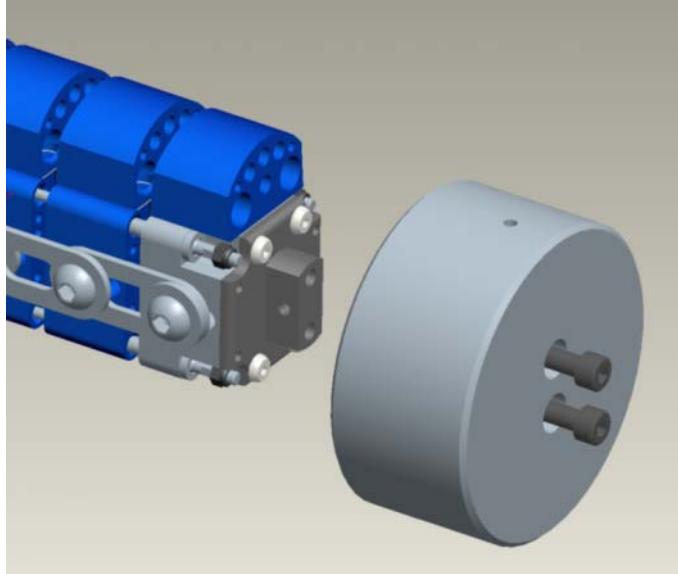

Figure 85 . Attaching Pendulum Ballast Weight
Step 7: Attach the ballast weight (Part Nr 133-8436) as shown in Figure 85 to the top of the femur using two M8 x 50 long cap head screws;